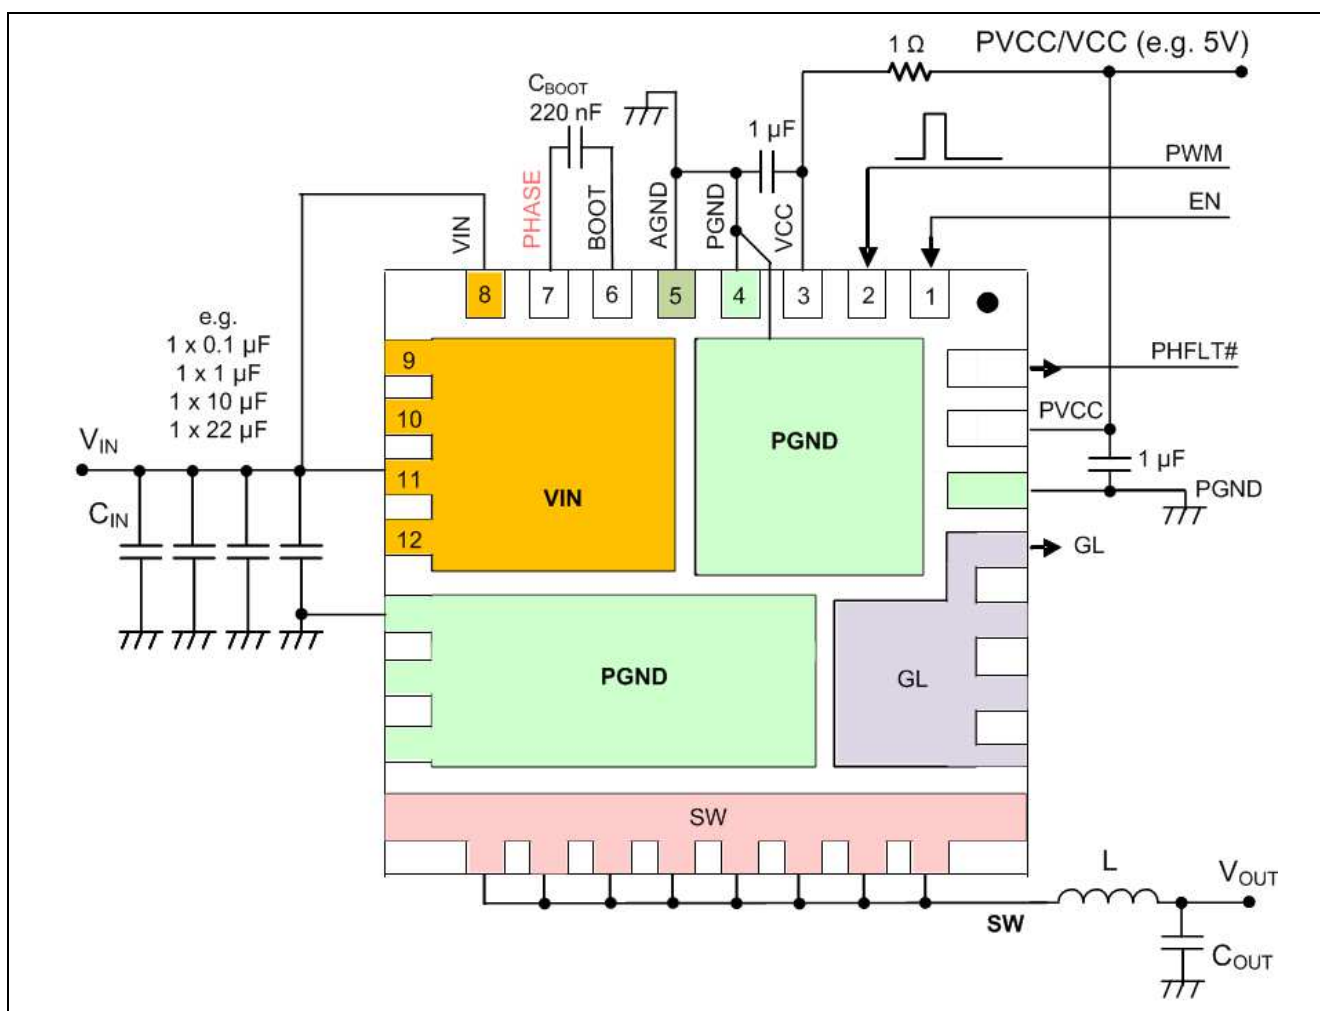

Figure 6 Pin Interconnection Outline (example, transparent top view)
³ In telecom applications the recommended maximum voltage for V_{IN} is 13.2V unless a boot resistor is used (see Figure 6) to limit the voltage spike $V_{PHASE-V_{PGND}}$ (AC) to 26V.